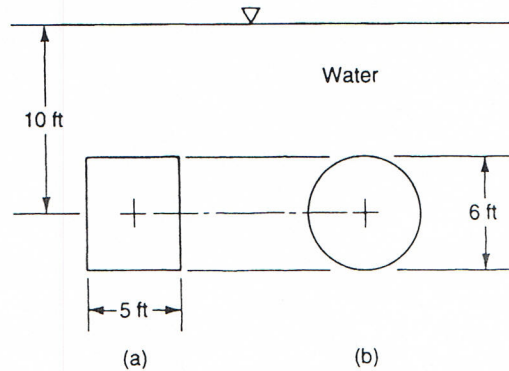

Fig. 6-3
Fig. 6-3 shows two vertical submerged plane areas. Determine the hydrostatic force on each area and the point of application of each equivalent concentrated force.
For the rectangle of area $A = (6)(5) = 30 \text{ ft}^2$ in Fig. 6-3(a),
For the circle of area $A = \pi(6)^2/4 = 28.3 \text{ ft}^2$ in Fig. 6-3(b),